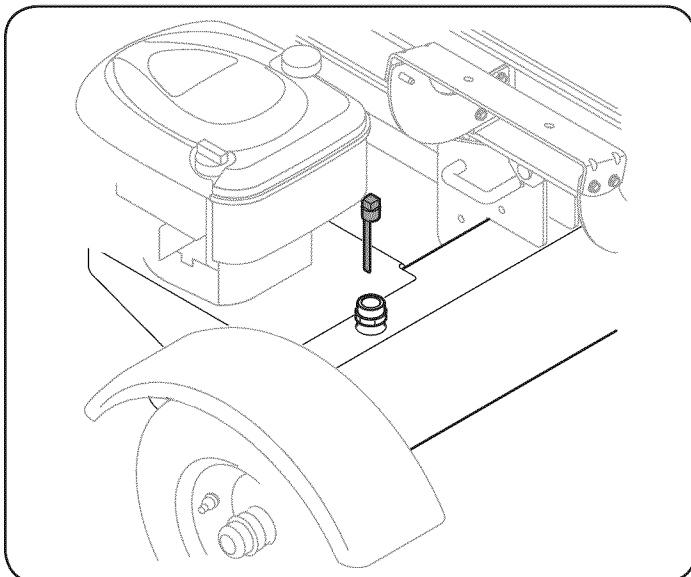

Figure 7
3. Check the fluid level using the dipstick. See Figure 7. Do not overfill.